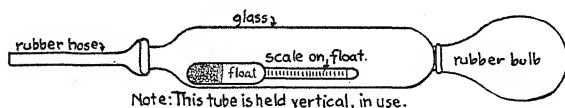

FIG. 54. Hydrometer for testing a storage battery.
65. **Charging a Storage Battery.** The charging process is needed whenever the electrolyte in the battery cells indicates it. To test a battery for its condition of discharge, a special device called a hydrometer is used. This instrument usually is made of a long glass tube, a rubber suction bulb, and a graduated float, as shown in Figure 54.